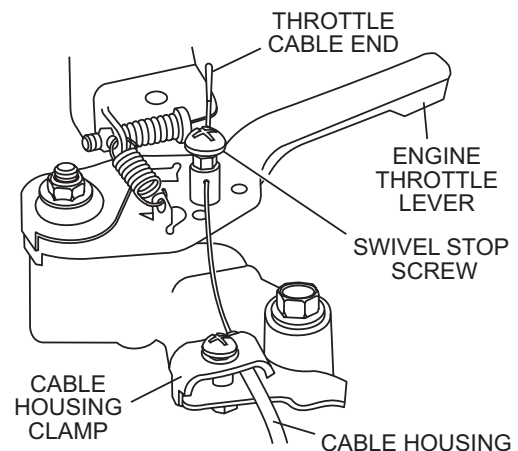
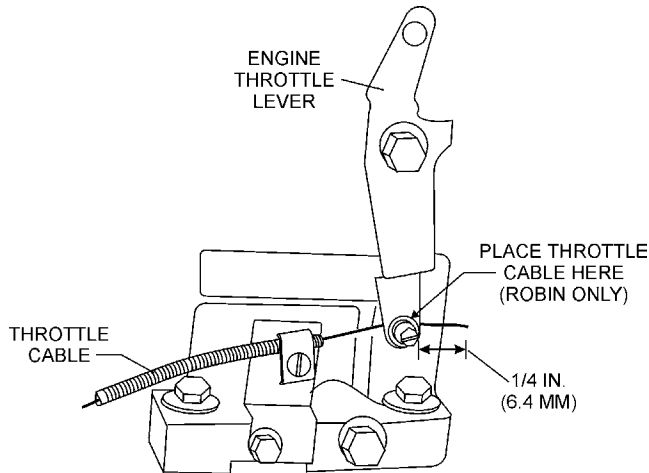

Figure 8. Throttle Cable Connection (HONDA)
Figure 9. Throttle Cable Connection (ROBIN)
3. Connect the throttle cable to the engine. (Figure 8), **Honda** and (Figure 9), **Robin**. There should be a piece of wire installed on the trowel to show where to route the throttle cable. When connecting the cable housing, make sure that no more than **6 mm (1/4 in.)** of the cable housing protrudes past the housing clamp on the engine.